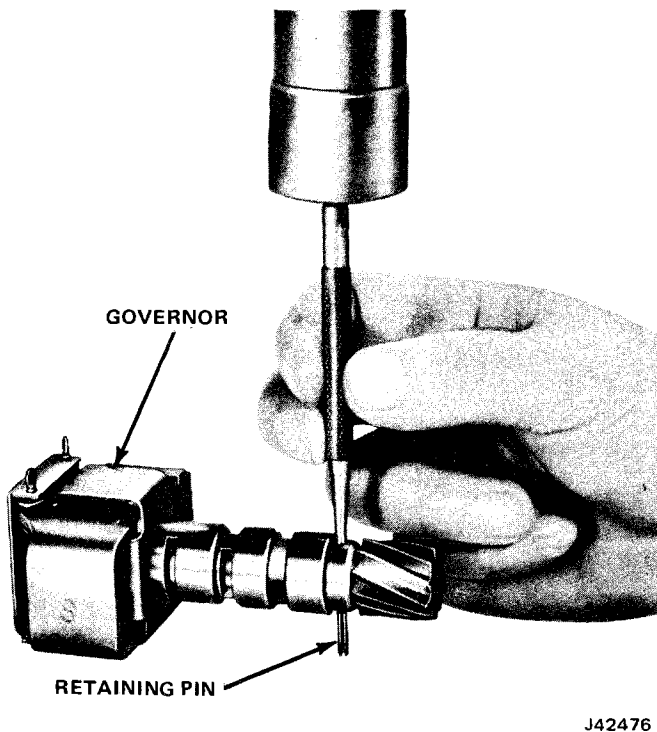

Fig. 2C-54 Governor Driven Gear Retaining Pin Removal
- (3) Mount assembled parts in arbor press and use long punch to press gear out of sleeve.
- (4) Clean chips from governor sleeve.
- (5) Support governor on 7/64-inch thick plates installed in exhaust slots of sleeve.
- (6) Insert replacement gear in sleeve.
- (7) Press gear into sleeve using suitable size socket until gear is nearly seated (fig. 2C-55).